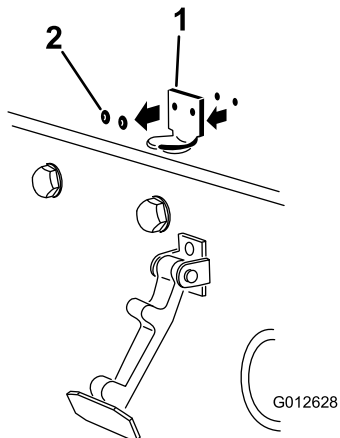

Figure 7
2. Remove the rivets (2) securing the hood-latch bracket to the hood (Figure 7). Remove the hood-latch bracket from the hood.